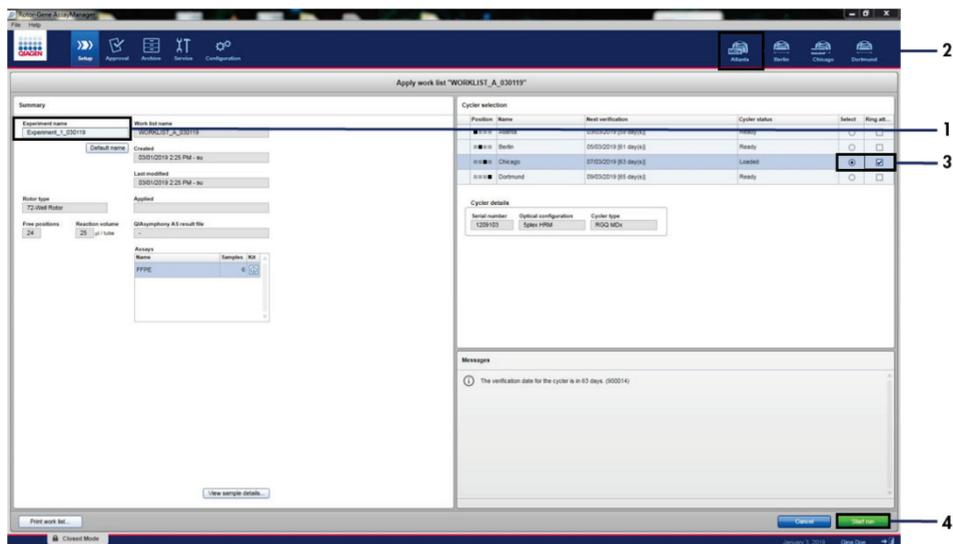

Figure 12. Applying work list and run start. 1 = Enter experiment name, 2 = Instrument selection, 3 = Ensure that “Ring attached” is selected, 4 = Start run.
20. Enter the experiment name in the **Experiment name** field. Select a cycler from the list of available cyclers and ensure that the **Ring attached** box is checked (Figure 12).